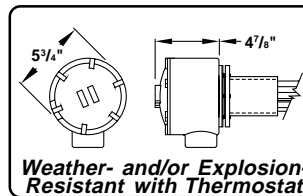

Fig. 3.5
- **Weather- and/or Explosion-Resistant** enclosures (Fig. 3.5)